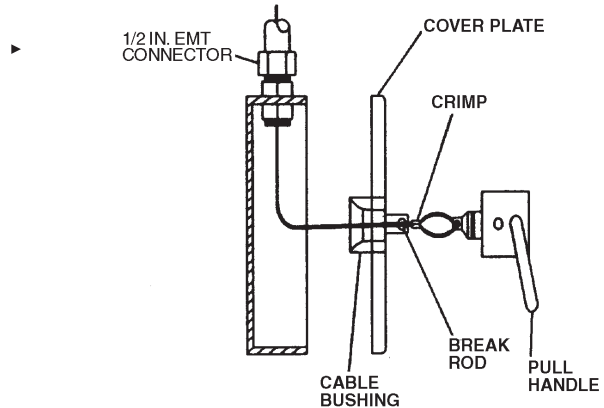

Figure 4-16. Model RPS-M Remote Pull Station Installation.
▶ After mounting the pull station box and conduit, feed the stainless steel cable from the control head, through the conduit, and into the pull station box. Insert the bushing into the pull station's cover plate and secure it with the locknut provided. Feed the cable through the bushing and into the pull handle ensuring that the cable fully crosses the set screw hole. Fasten the cable to the pull handle with the set screw (see **Figure 4-16**).